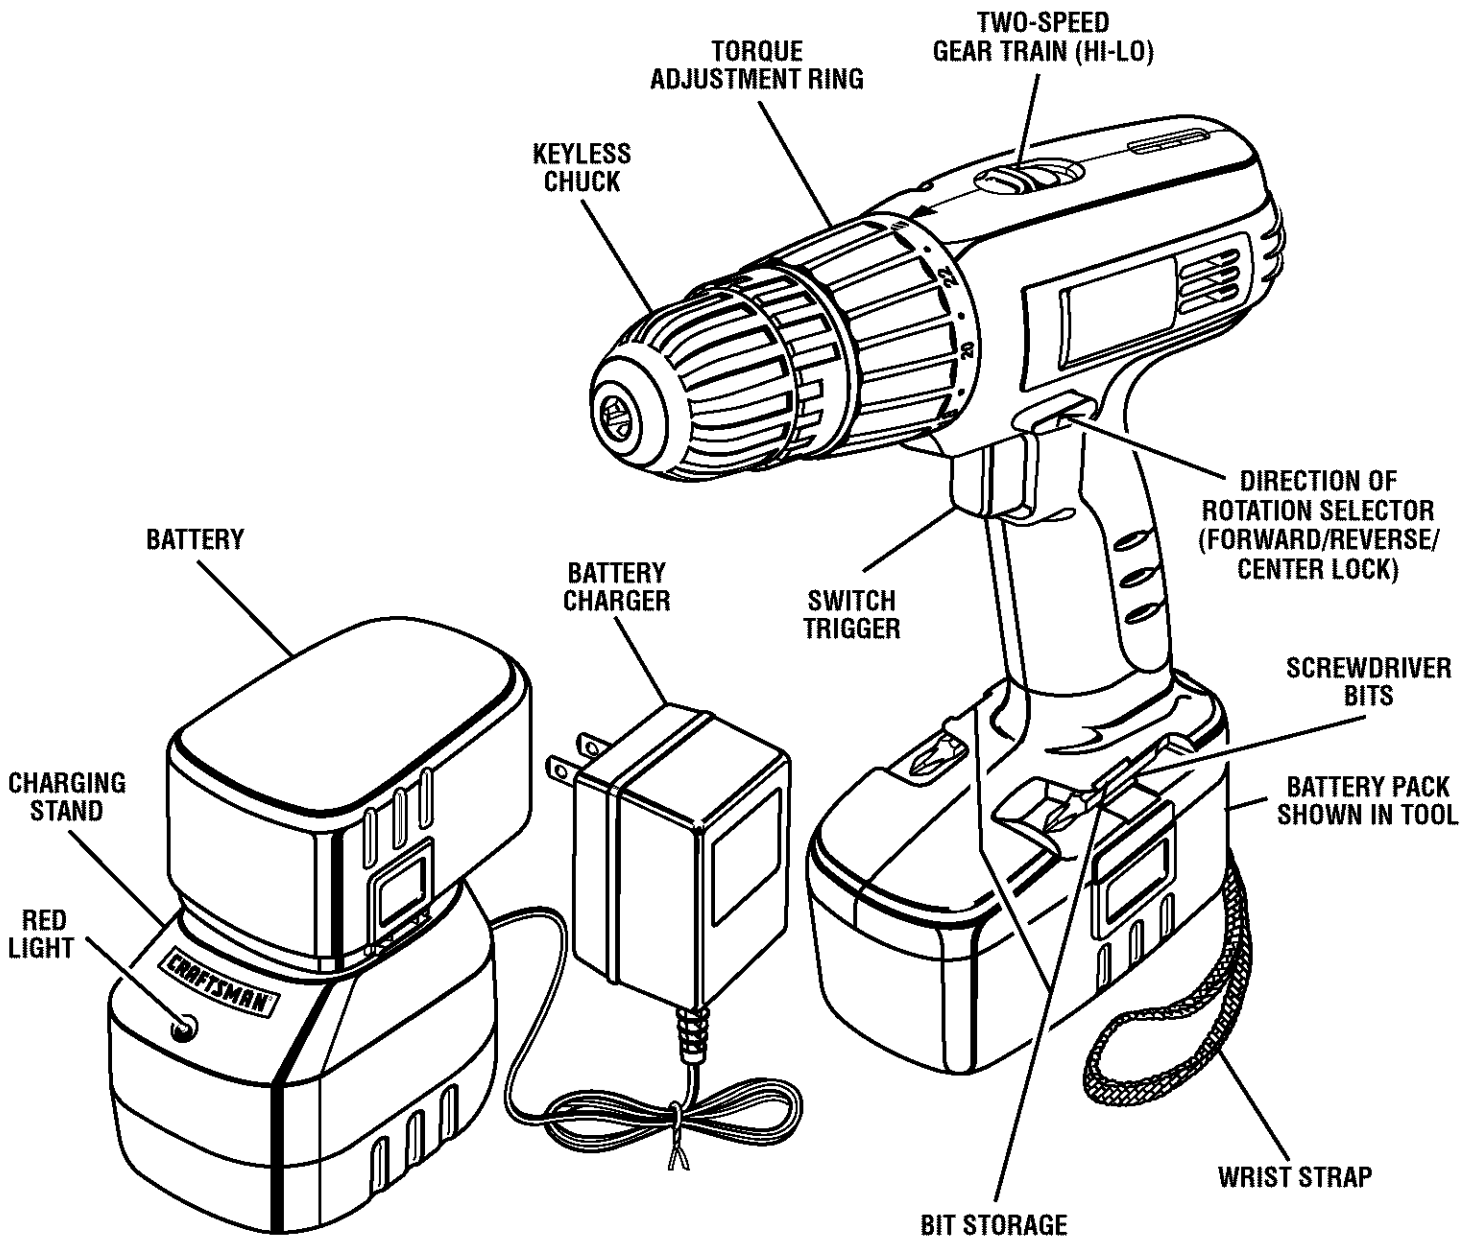

Fig. 1
See Figure 1.
- Place battery pack in charging stand. Align raised rib on battery pack with groove in charging stand. See Figure 1.